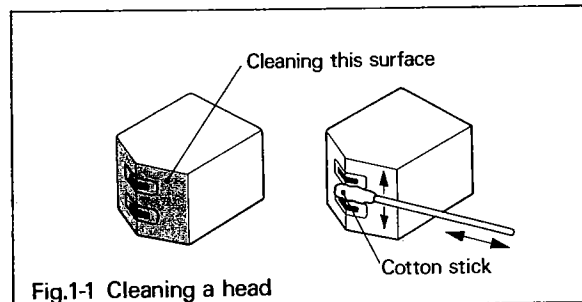

Fig.1-1 Cleaning a head
- 1) Remove the head cover (6) gently and expose the heads.
- 2) Attach a wad of cotton or a piece of gauze to the tip of a small wooden stick, soak it with a commercially available head cleaning liquid, then wipe the head surfaces (Fig. 1-1) gently with it. Be careful not to nick or scratch the heads when wiping.